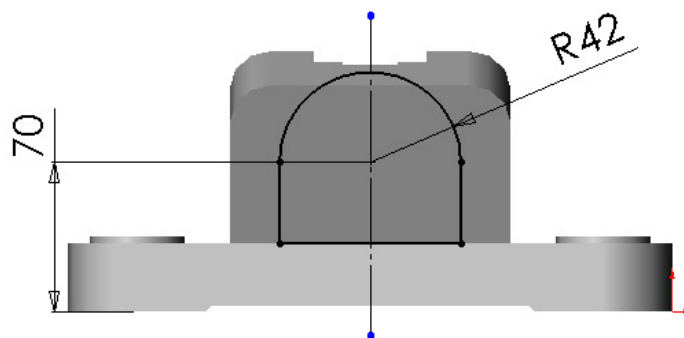

Figure 22 Sketch for counterbored hole boss
27. Select **Dimension**  on the Sketch Relation toolbar, and dimension the sketch as shown in Figure 22.